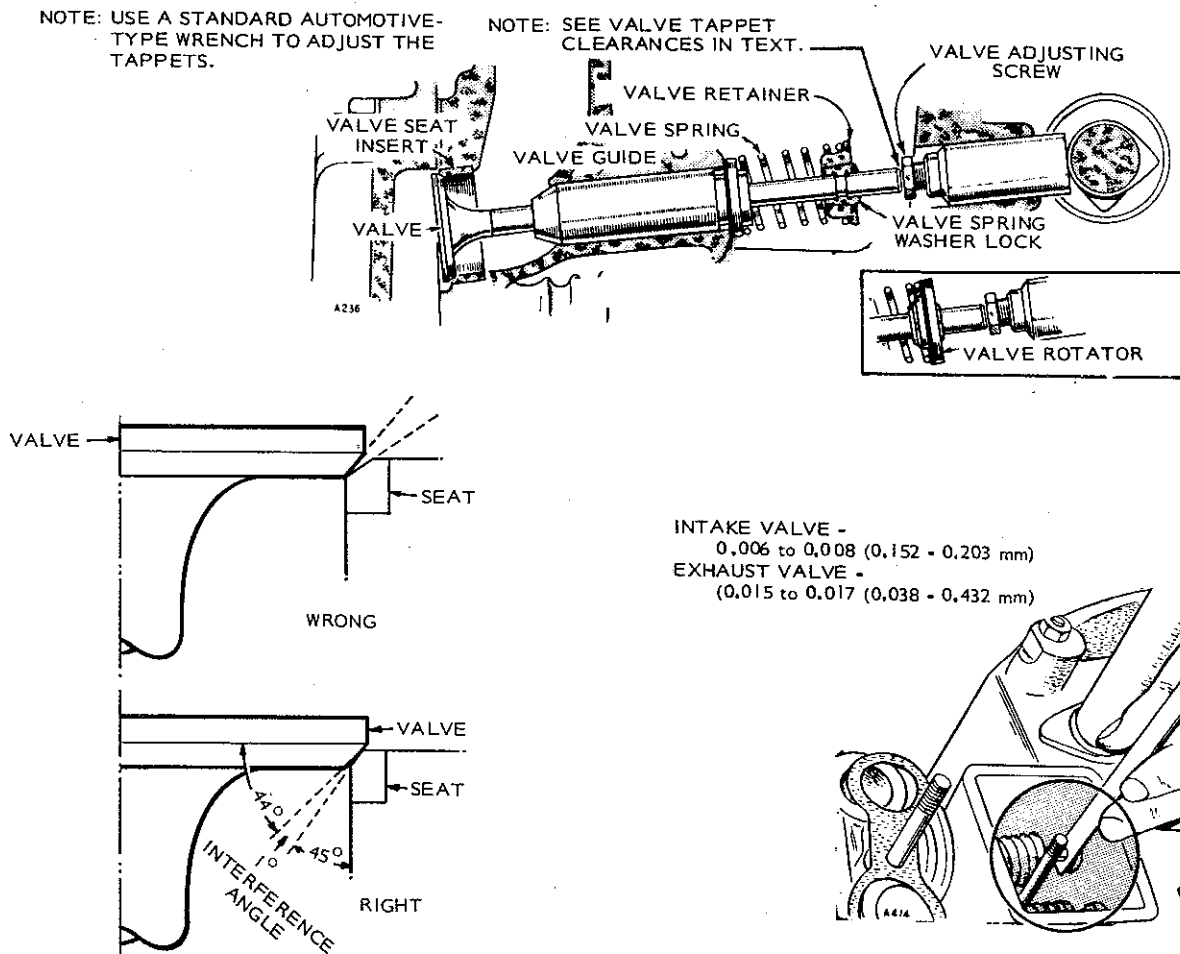

FIGURE 17. VALVE SYSTEM AND ADJUSTMENTS
The valve face angle is 44 degrees. The valve seat angle is 45 degrees. This 1-degree interference angle results in a sharp seating surface between the valve and the top of the valve seat. The interference angle method of grinding valves minimizes face deposits and lengthens valve life. See Figure 17.
3. Continue about 1/4 turn until mark on flywheel and TC mark on gear cover are in line. This should place the left-hand piston at the top of its compression stroke, the position it must be in to get proper valve adjustment for the left-hand cylinder. Clearances are listed in the table of *DIMENSIONS AND CLEARANCES*. For each valve, the thinner gauge (minimum) should pass freely between the valve stem and valve tappet but the thicker gauge (maximum) should not. Refer to Figure 17.